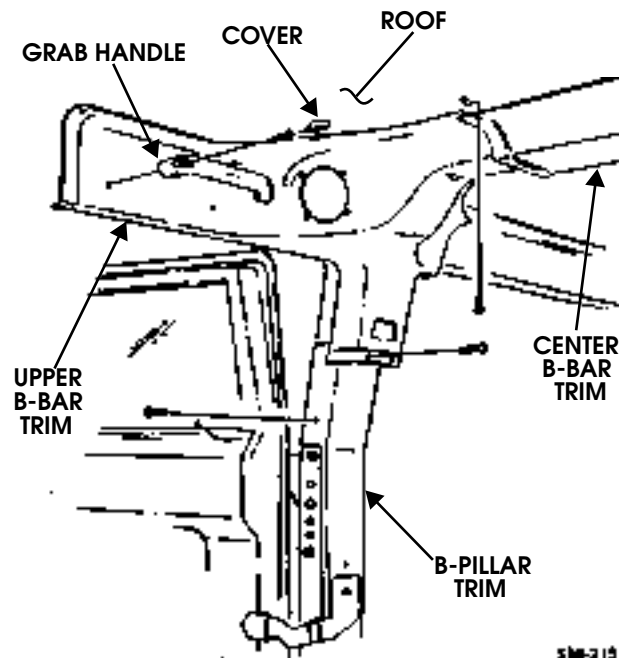

Figure 10-40: B-Pillar and Interior Trim Component Identification
10. Secure B-pillar trim to B-pillar with washers and screws (Figure 10-40).